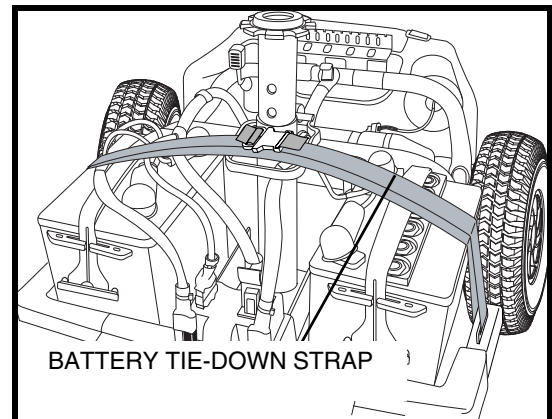

Figure 13C. Battery Tie-Down Strap
2. Disconnect the battery tie-down strap. See figure 13C.
10. Reconnect the battery harnesses. See figure 13C.